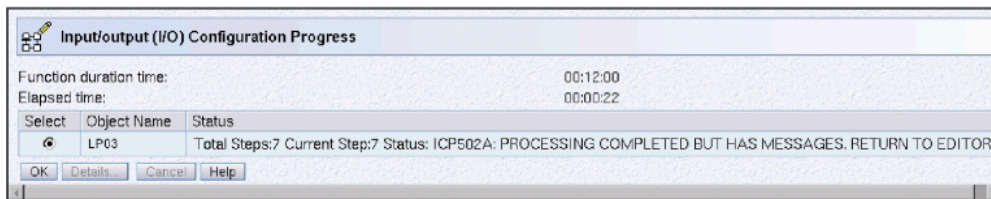

Figure 42. *Input/output Configuration Progress - Build with cautions or warnings*
- Warnings (see Figure 42 on page 32)
If the build was successful but had caution or warning messages, the window shown in Figure 42 on page 32 is displayed. The resultant IOCDs has been written to the hard disk of the Support Element. Use the **Open Source File** action, described in “Open Source File” on page 26 to correct the caution and warning conditions, if necessary.